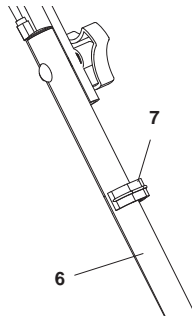

Fig. 5
5. Fix the wires (4) with the clip wire (7) to the lower handle bar (6) Fig.5.